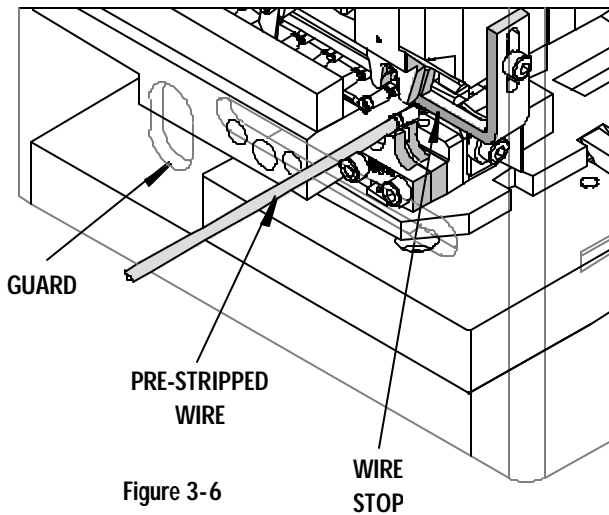

Figure 3-6
4. Place the prestripped wire through the slot in the press guard and push until it contacts the wire stop. See Figure 3-6.